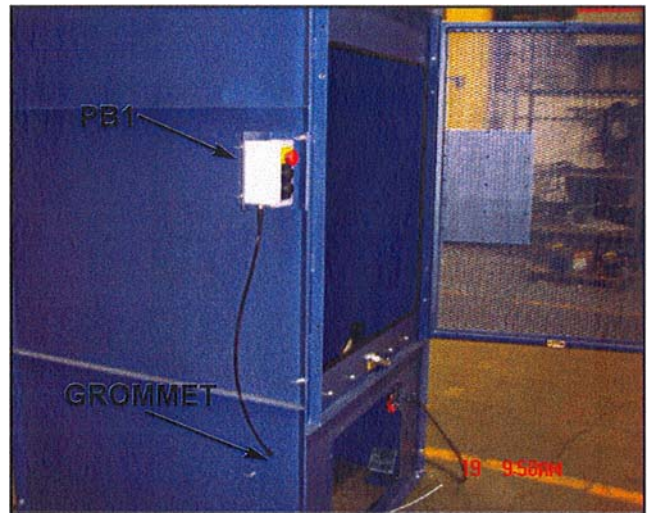

Figure 13
- Remove access cover below lower level gate to gain access to control panel cables. Feed cable (PB1) through hole with grommet in lower panel and to where you have mounted push button station near lower level gate. Secure cables inside and outside of lift so they don't interfere with moving parts of lift. Match wire tag to device. See Figure 13.